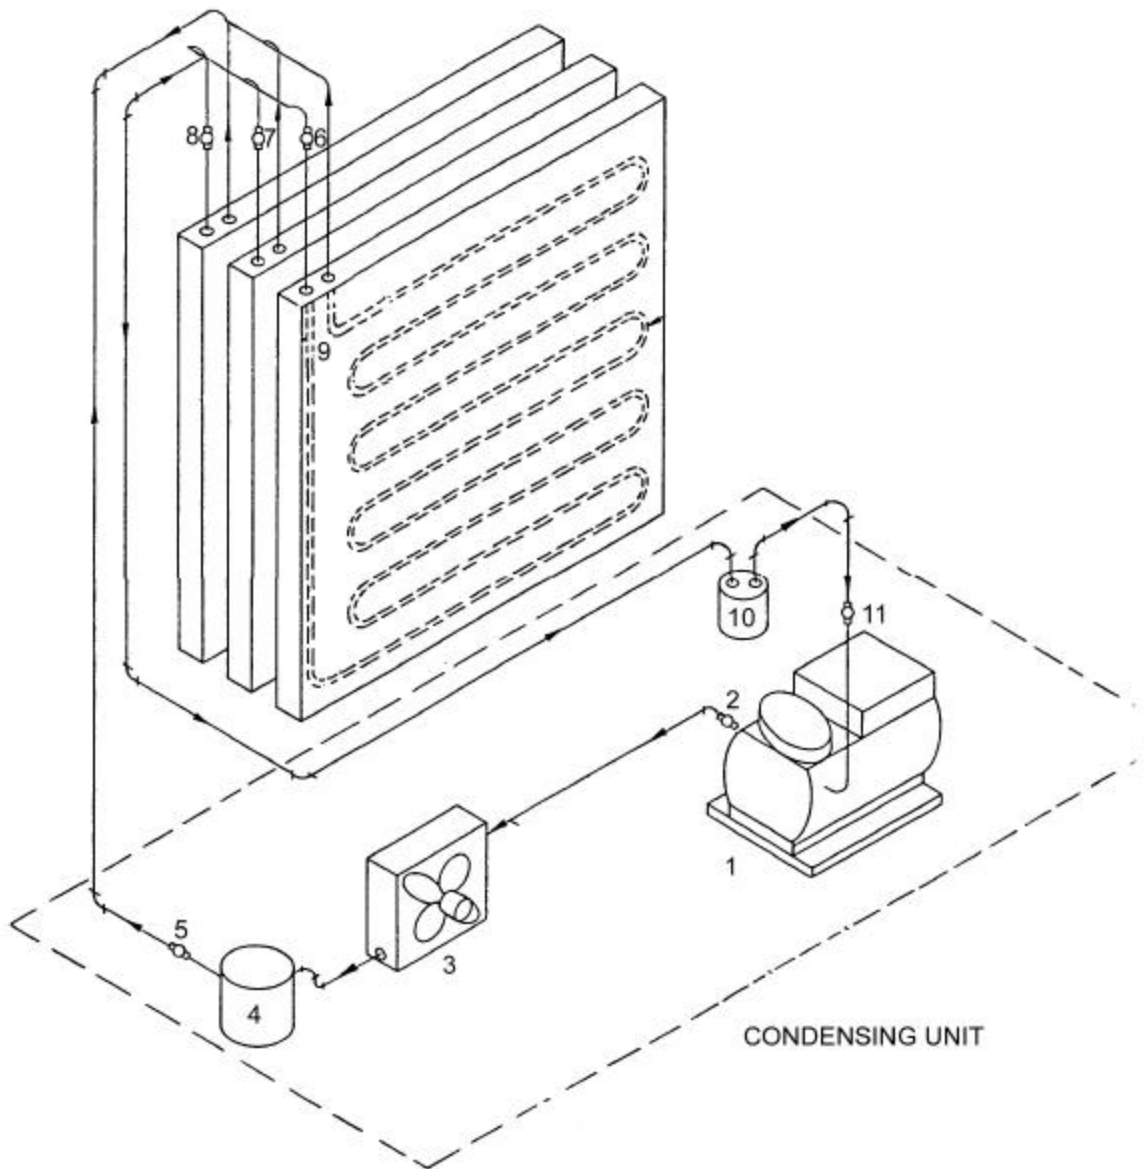

Figure 3 – Cold-Wel Blower Unit
A Dole Cold-Wel with Water Defrost contains three plates filled with a zero degree F. eutectic solution, and each plate has an internal refrigeration coil (9). (Refer to Figure 3)
Equipment Items (Refer to Figure 3)